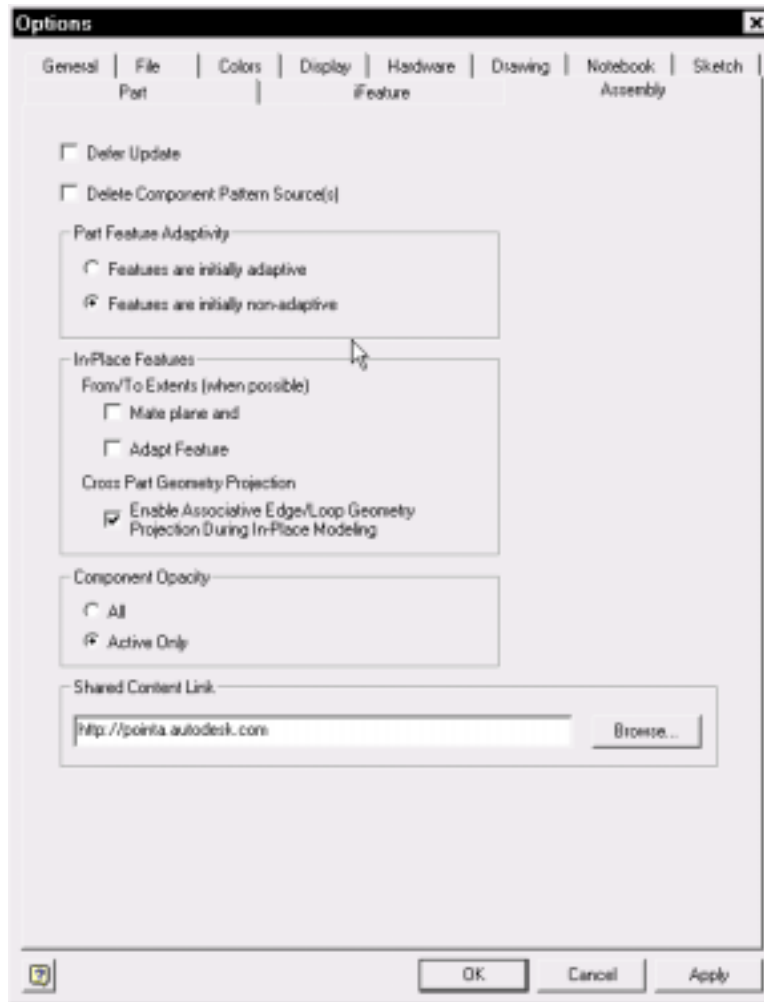

Figure 3–55
3. Select an assembly file from the Select Assembly dialog box and select the OK button. (See Figure 3–56.)
4. Referring to Figure 3–57, tweak the components apart.